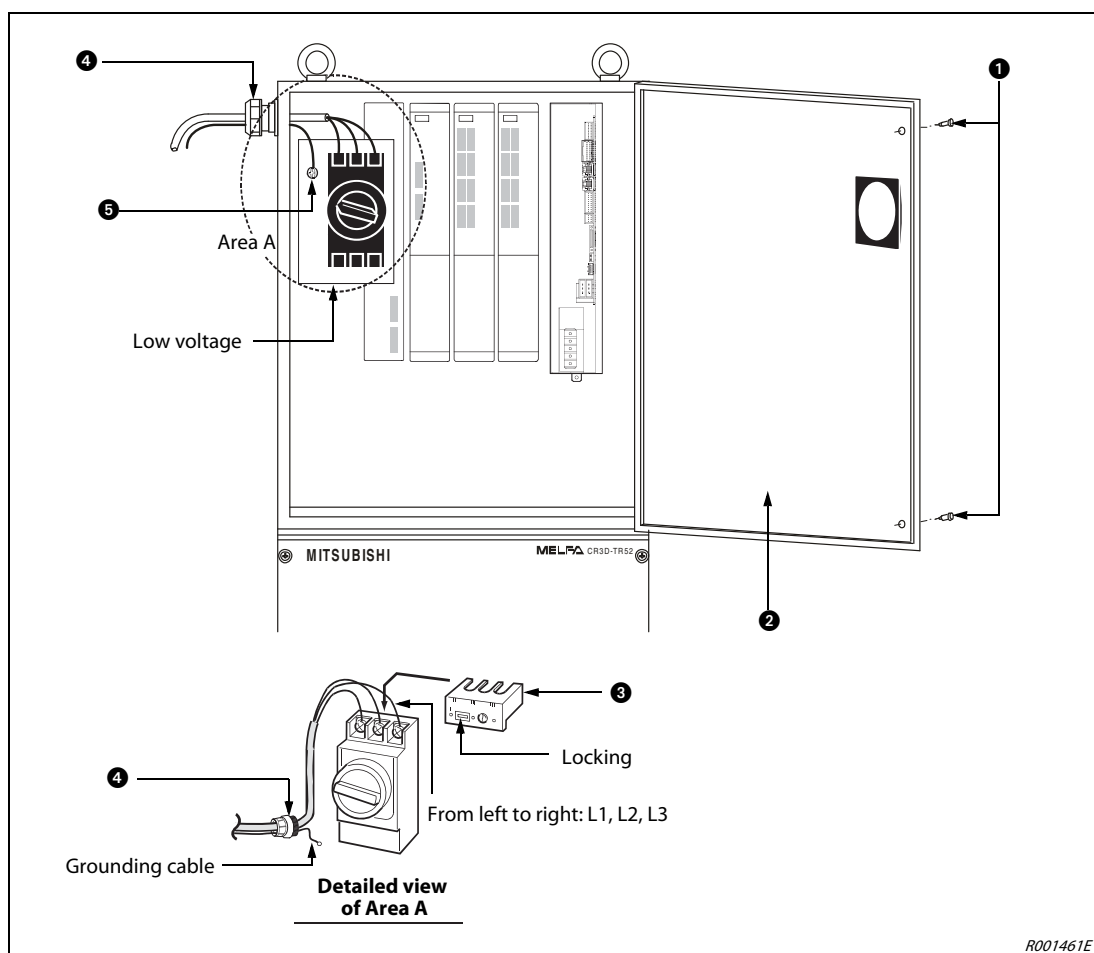

Fig. 4-6: Connection of mains line and grounding on control unit CR3D and on drive unit DU3
- ① Make sure that the mains voltage and the power switch of the control unit or the drive unit are switched off.
- ② Release the two screws ❶ of the door ❷, rotate the [POWER] switch to the "OFF" position and open the door.
- ③ Remove the terminal cover ❸ of the power switch by pressing the lock upwards and then remove the cover.
- ④ Prepare the mains line (feed) and the grounding cable. Use cable with a minimum cross-section of 2.5 mm².
- ⑤ Release the cable connection on the side ❹ and lead the mains line and the grounding cable through the cable connection.
- ⑥ Connect the mains line to the terminals of the power switch according to Fig. 4-6 .
- ⑦ Connect the grounding cable with the ground connection ❺ (M5-screw) to the low-voltage board.
- ⑧ Fix the terminal cover ❸ of the power switch back into place. You will hear a click when it locks in.
- ⑨ Tighten the cable connection.
- ⑩ Close the door of the control unit ❷. You will hear a click when the door locks on. Fix the door with the screws ❶.